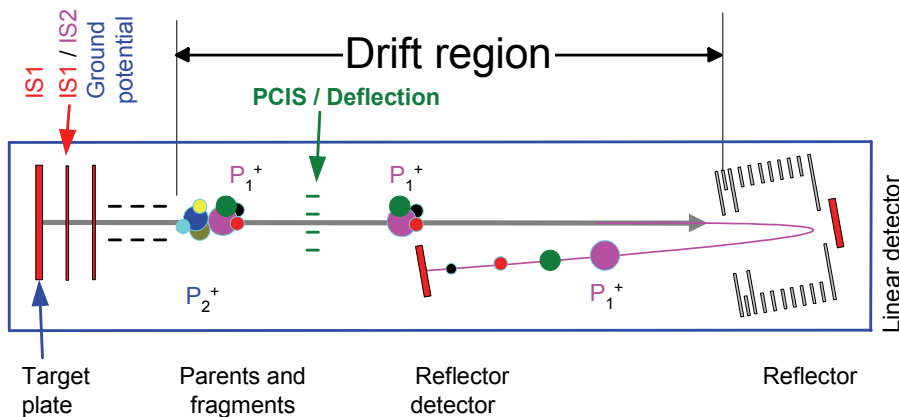
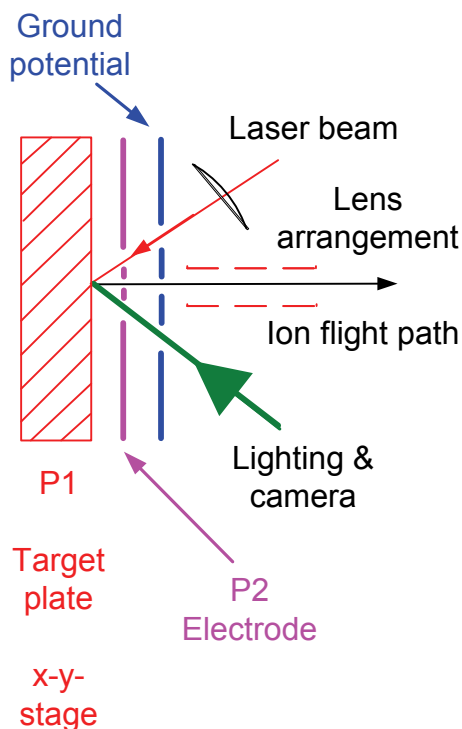

Figure 3-1 Schematic of the instrument
Figure 3-5 Scheme of the microSCOUT Ion Source
The schematic shown in Figure 3-1 provides an overview of the **microflex** mass spectrometer's working principle.
The ion source (Figure 3-5) is the part of the mass spectrometer where ions are formed using the **MALDI** technique. The source consists of three main components.
3. the following grounded acceleration electrode (Figure 3-1, Figure 3-5).